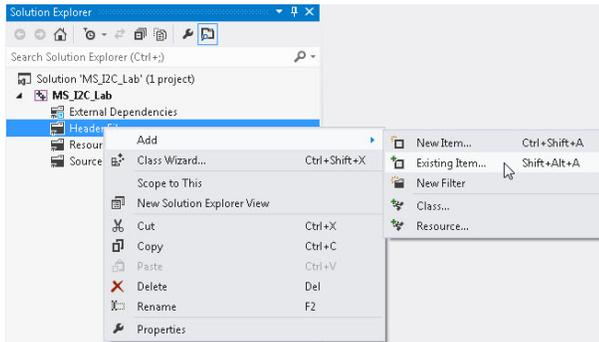
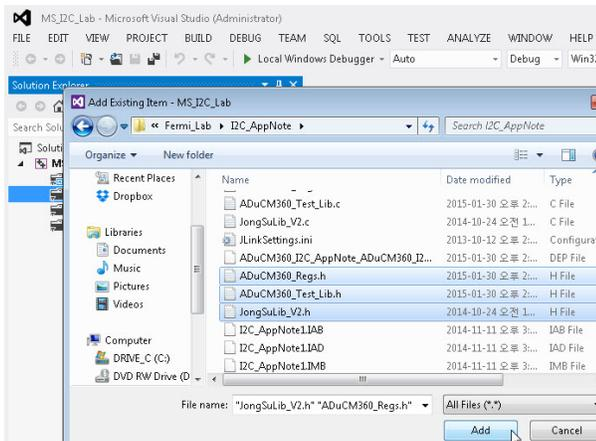

Figure 20. Add Sample Files
Figure 21. Add Existing Items
3. Add all the sample files and existing items into the project, as shown in Figure 20 and Figure 21.